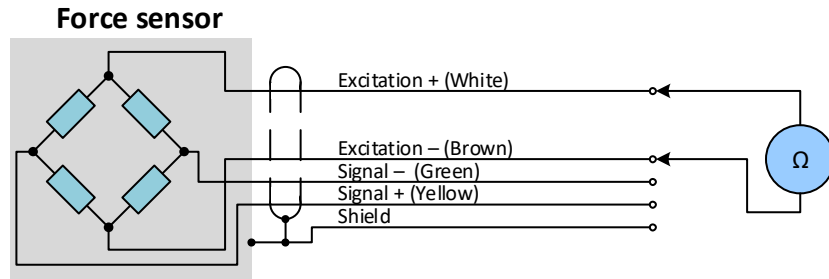

Fig. 11. Measurement of the resistance of the sensor
4. **Check sensor resistance.** The resistance of the sensor is measured by an ohmmeter connected to the sensor wires - fig. 11. The exact value of the resistance should be seen in the datasheet of the sensor. Usually it is in the range from 350 to 400 Ω . If the sensor resistance is significantly lower, the signal conditioner is overloaded and the supply voltage may drop as a result. It is a sensor error. If the sensor resistance is within tolerance and the supply voltage is still reduced, the fault is in the signal conditioner. The input resistance must be measured between the Exc + and Exc - wires and also the output resistance, e. g. between the Signal + and Signal - wires. In fig. 11 only the measurement of the input resistance is plotted.